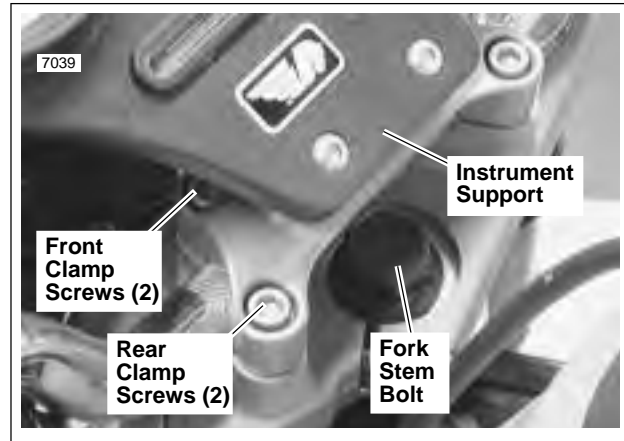

Figure 2-69. Loosening Handlebars
- b. See Figure 2-69. Remove the two front clamp screws.
5. See Figure 2-69. Slowly loosen fork stem bolt until forks drop 0.5 in. (12.7 mm) in triple clamps.
3. See Figure 2-69. Tighten fork stem bolt and triple clamp screws. Check bearing adjustment. See 1.17 STEERING HEAD BEARINGS.